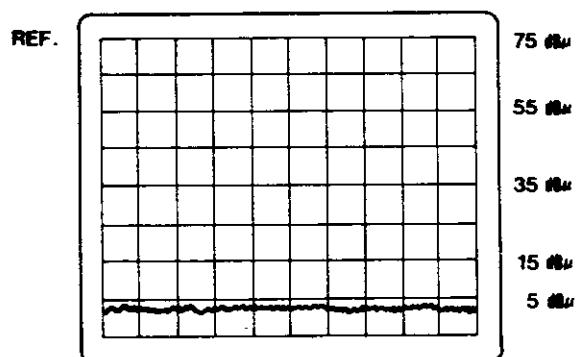
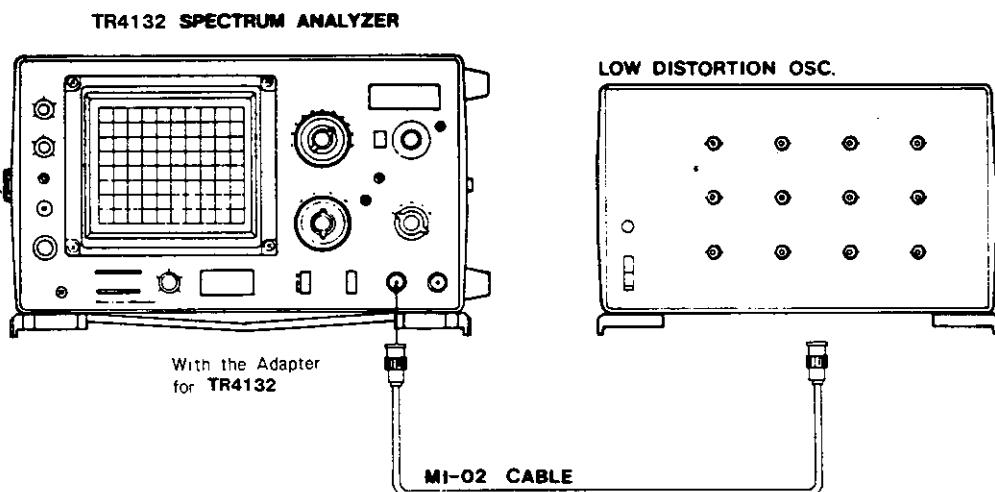

Fig. 3-32 Average Noise Level Test Display
Fig. 3-33 Spurious Response Test Setup
- (4) Adjust **IF GAIN-CAL.** and center the signal on the display. [Fig. 3-32]
- (5) Disconnect from INPUT of the instrument and set **VIDEO FILTER** to 100Hz.
- (6) Set the scan time slower and check that the average noise level is below  $5\text{dB}\mu$ . [Fig. 3-33]